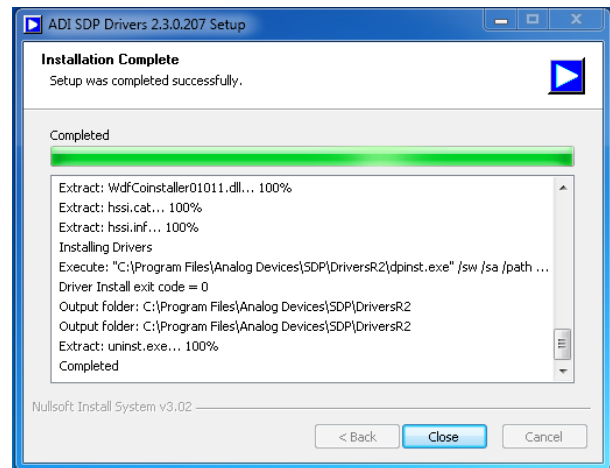

Figure 15. **Installation Complete**
5. Click the **Close** button shown in Figure 15 when the installation is complete.